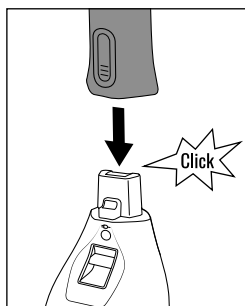

Fig. 1
- ◆ Carefully push the long handle **2** onto the motor unit **8** until it clicks into place (see fig. 1).